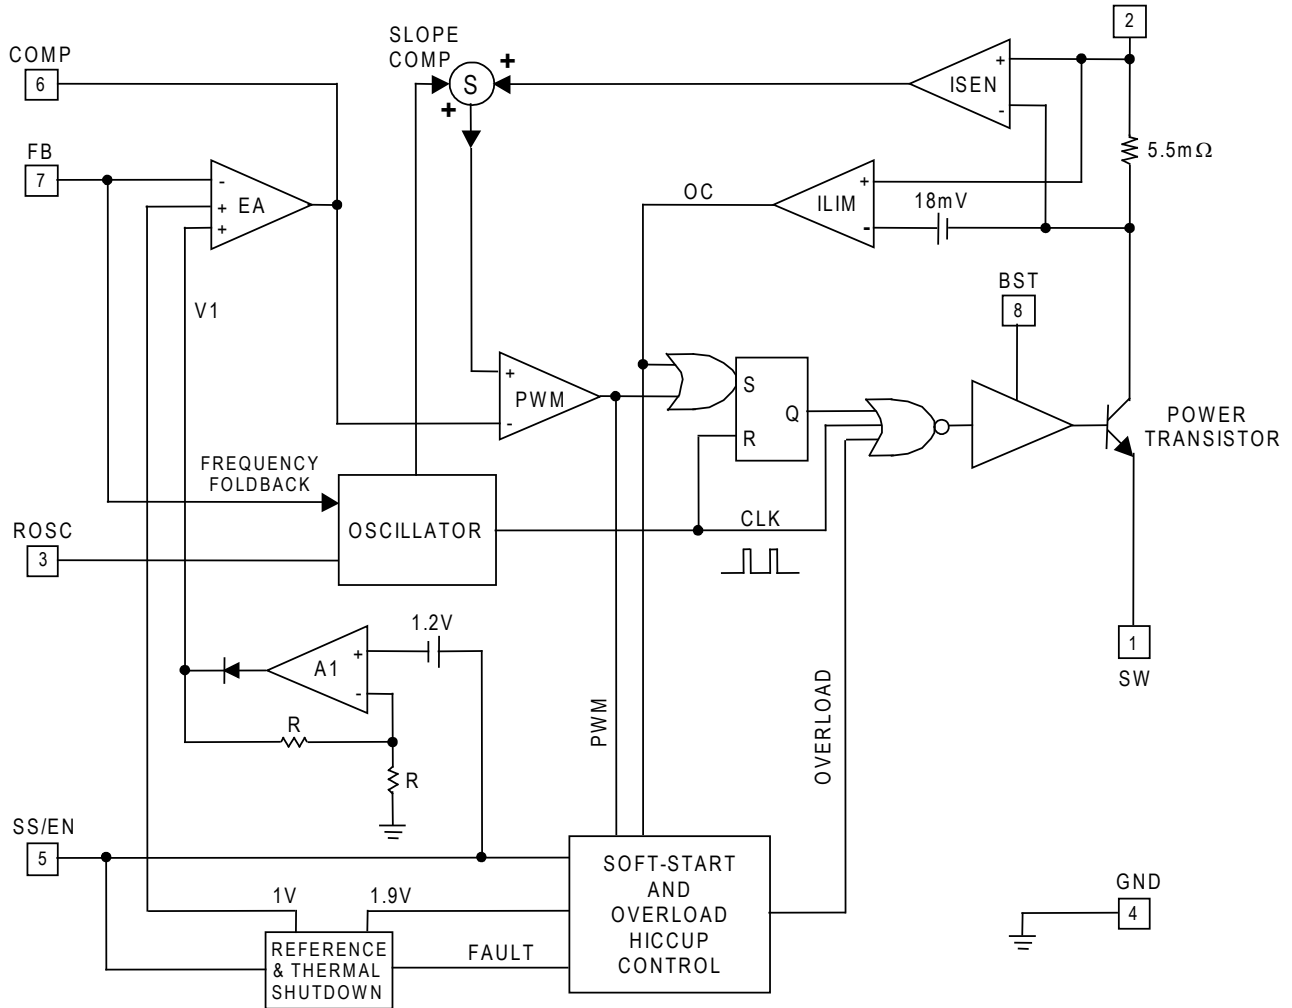

Figure 2 — SC4524E Block Diagram
As shown in Figure 2, the switch collector current is sensed with an integrated 5.5mΩ sense resistor. The sensed current is summed with a slope-compensating ramp before it is compared with the transconductance error amplifier (EA) output. The PWM comparator trip point determines the switch turn-on pulse width. The current-limit comparator ILIM turns off the power switch when the sensed signal exceeds the 18mV current-limit threshold.
The error amplifier EA in Figure 2 has two non-inverting inputs. The non-inverting input with the lower voltage predominates. One of the non-inverting inputs is biased to a precision 1V reference and the other non-inverting input is tied to the output of the amplifier  $A_1$ . Amplifier  $A_1$  produces an output  $V_1 = 2(V_{SS/EN} - 1.2V)$ .  $V_1$  is zero and COMP is forced low when  $V_{SS/EN}$  is below 1.2V. During start up, the effective non-inverting input of EA stays at zero until the soft-start capacitor is charged above 1.2V. Once  $V_{SS/EN}$  exceeds 1.2V, COMP is released. The regulator starts to switch when  $V_{COMP}$  rises above 0.4V. If the soft-start interval is made sufficiently long, then the FB voltage (hence the output voltage) will track  $V_1$  during start up.  $V_{SS/EN}$  must be at least 1.83V for the output to achieve regulation. Proper soft-start prevents output overshoot. Current drawn from the input supply is also well controlled.
the regulator, the current-limit comparator ILIM (Figure 2) will eventually limit the switch current on a cycle-by-cycle basis. The over-current signal OC goes high, setting the latch B3. The soft-start capacitor is discharged with (ID - IC) (Figure 3). If the inductor current falls below the current limit and the PWM comparator instead turns off the switch, then latch B3 will be reset and IC will recharge the soft-start capacitor. If over-current condition persists or OC becomes asserted more often than PWM over a period of time, then the soft-start capacitor will be discharged below 1.9V. At this juncture, comparator B4 sets the overload latch B2. The soft-start capacitor will be continuously discharged with (ID - IC). The COMP pin is immediately pulled to ground. The switching regulator is shut off until the soft-start capacitor is discharged below 1.0V. At this moment, the overload latch is reset. The soft-start capacitor is recharged and the converter again undergoes soft-start. The regulator will go through soft-start, overload shutdown and restart until it is no longer overloaded.
The PWM latch in Figure 2 is reset every cycle by the clock. The clock also turns off the power transistor to refresh the bootstrap capacitor. This minimum off time limits the attainable duty cycle of the regulator at a given switching frequency. The measured minimum off time is 138ns typically. If the required duty cycle is higher than the attainable maximum, then the output voltage will not be able to reach its set value in continuous-conduction mode.